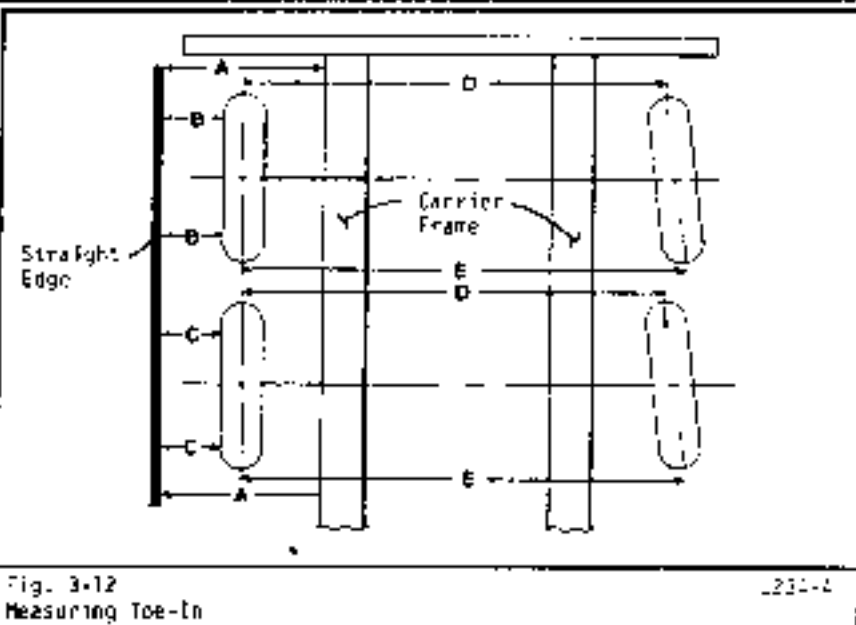

Fig. 3-12
Note: See Fig. 3-12. One means of lining up left wheels is to place a straight edge parallel to the carrier frame by measuring the distance (A) at each end of the straight edge. Once the straight edge is located parallel to carrier, measure the distance between the straight edge and the milled surface on the wheel hub used to locate the tie lugs. These four dimensions are represented by the letters (B) and (C). Both distances (B) must be the same as well as both distances (C) must be the same. Dimension (D) does not have to equal (C). Adjust appropriate cranks to correct any mis-alignment.
- (c) Once the left front wheels are lined up, check for proper toe-in. Check toe-in by scribing a line around the circumference of the tire tread at the centerline of the tire tread. The difference between the distances (D) on the front and (E) on the rear of the tire indicates the amount of toe-in. Toe-in should be  $1/8" + 1/32"$  (3.2mm + 0.79mm). Measurement must be made with the weight of the machine on the axle. Adjust appropriate tie rod to correct any deviation in toe-in.